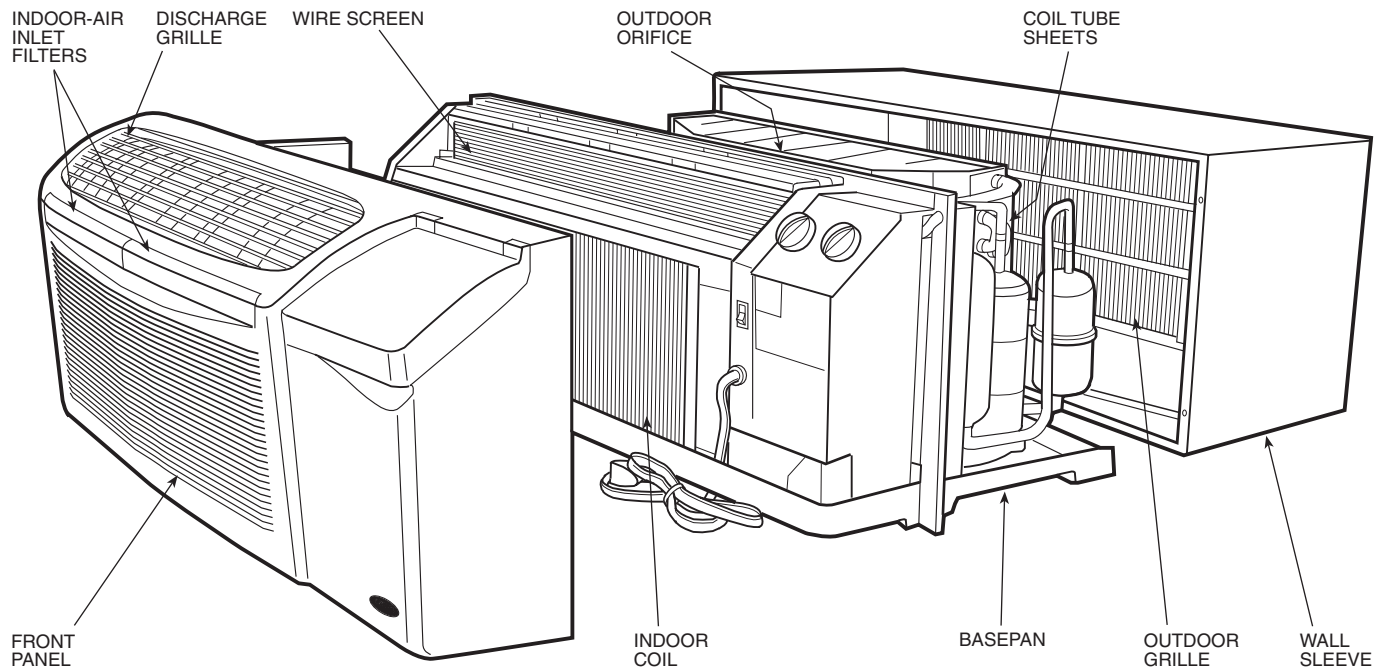

FIGURE 6 — 52C UNIT COMPONENTS
■ INSTALL CHASSIS IN SLEEVE (See Figures 6 to 9)
2. Gently pull the filter up and away from the unit. See Figures 6 and 17.